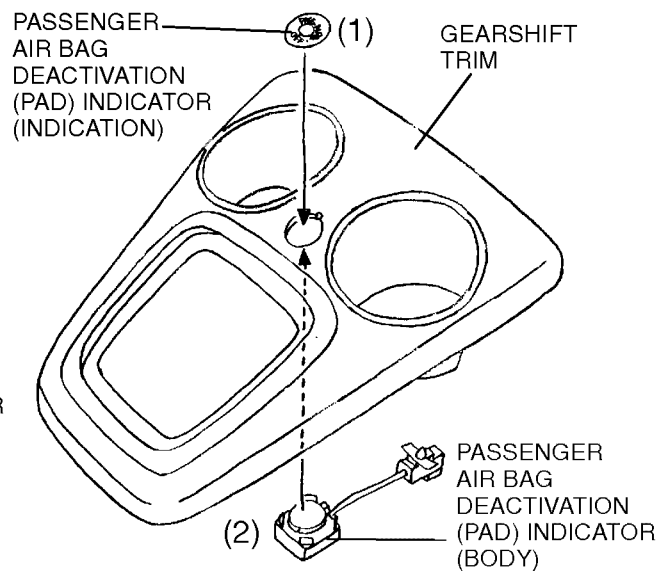

FIGURE 16
6. Install the passenger air bag deactivation (PAD) indicator to the gearshift trim in the order of (1), (2) (refer to Figure 16).